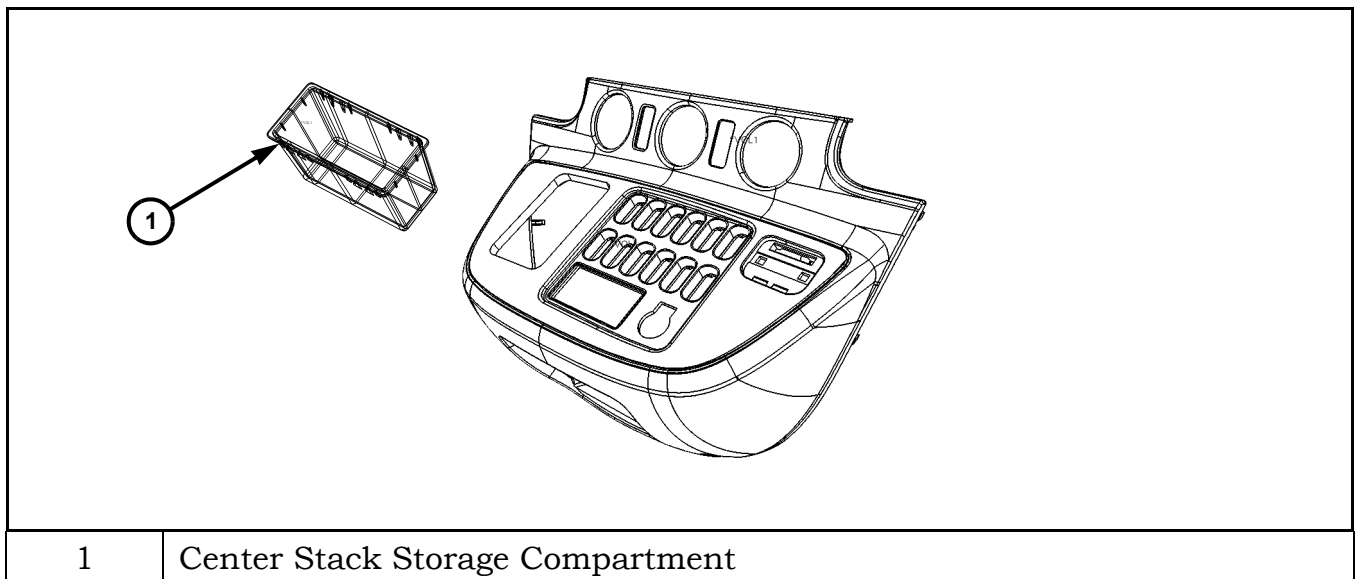

Figure 3 Removal of Center Stack Storage Compartment
3. Remove the center stack storage compartment (Figure 3) using a trim stick C-4755 or equivalent.